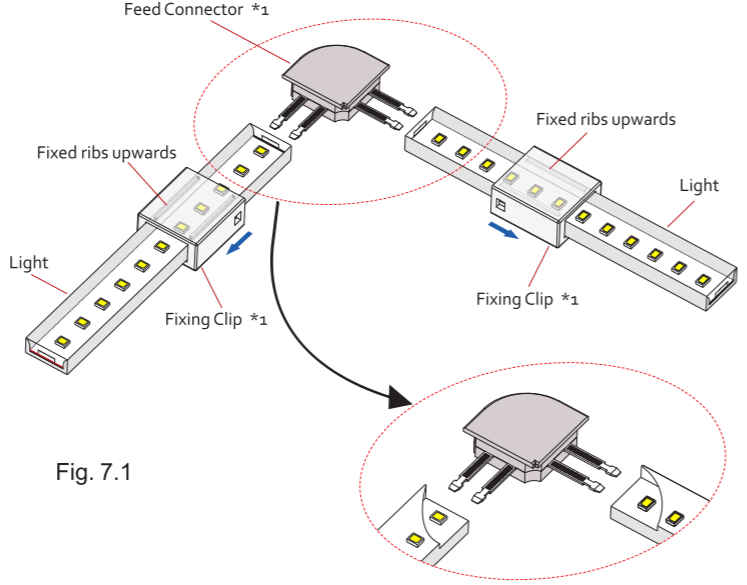

Fig. 7.1
- Fig. 7.1 — Firstly Put the two Fixing Clips through the light (As indicated by the blue arrow), and make sure the two fixed ribs are upwards.